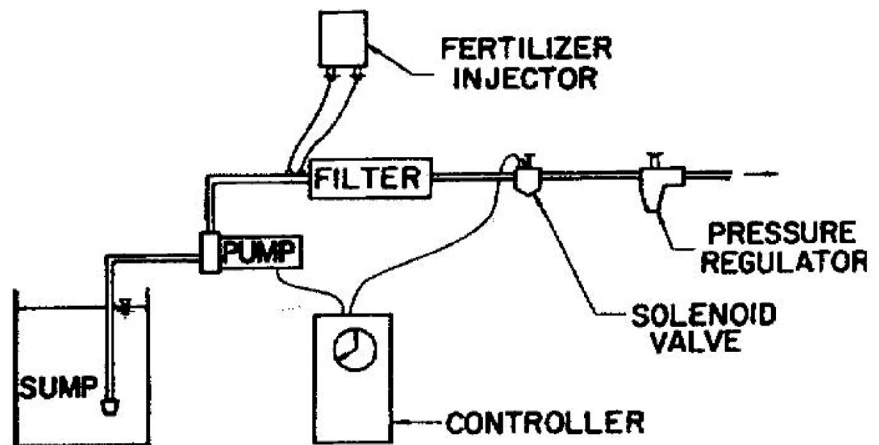

Figure 1: Typical micro sprinkler irrigation system "head."
Micro irrigation systems consist of a system “head” and a distribution network. A pump, filter, flow meter (optional), pressure gauge, fertilizer injector (optional), pressure regulator, and controller (optional for manual systems) generally make up a system head (Figure 1). The flow meter and acid injector are optional equipment but highly desirable because they help monitor system performance (flow meter) and add flexibility to the system (injector). The distribution network consists of pipes usually made of polyethylene (PE), pipe fittings, sprinklers, and valves. Valves can be actuated electrically by a controller connected to a solenoid valve in the case of an automated system or manually.